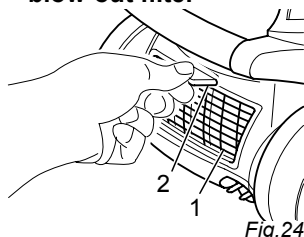

Fig. 24
2. Open the blow-out filter cover (Fig. 24/1). To do this, press the lock (Fig. 24/2) down and pull the blow-out filter cover back.